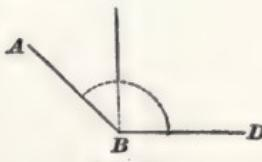

FIG. 10.
**28.** An **obtuse angle** is greater than a right angle.  $ABD$  (Fig. 10) is an obtuse angle.